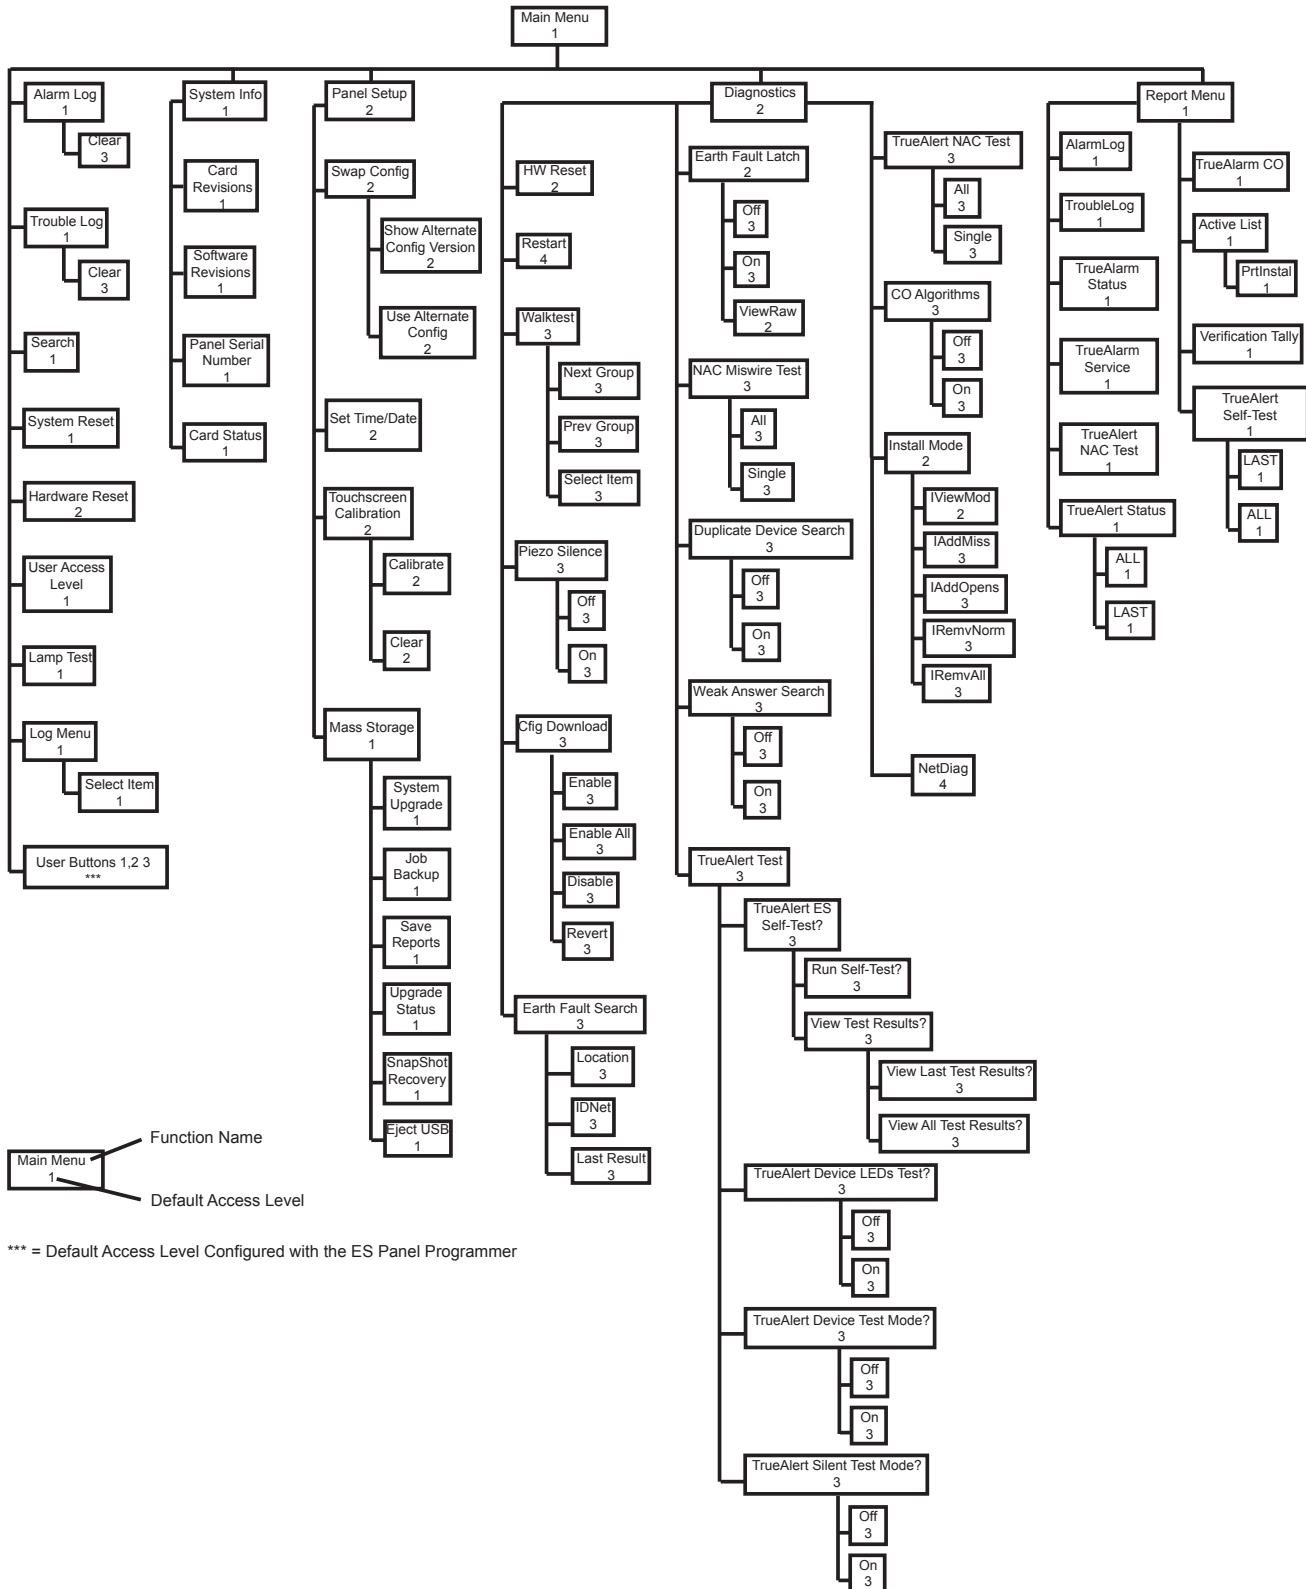

Fig 25: User Access Level Chart
2. Only some functions are available at each access level. Figure 25 shows functions with associated default user access levels.
The **Alarm Log** screen contains a list of alarms that the panel has received. Refer to Figure 25 for access levels required for each option inside the **Alarm Log** screen.